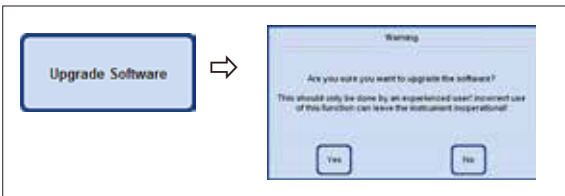

Fig. 77
- Connect the USB stick and press the **UPGRADE SOFTWARE** button (Fig. 77).